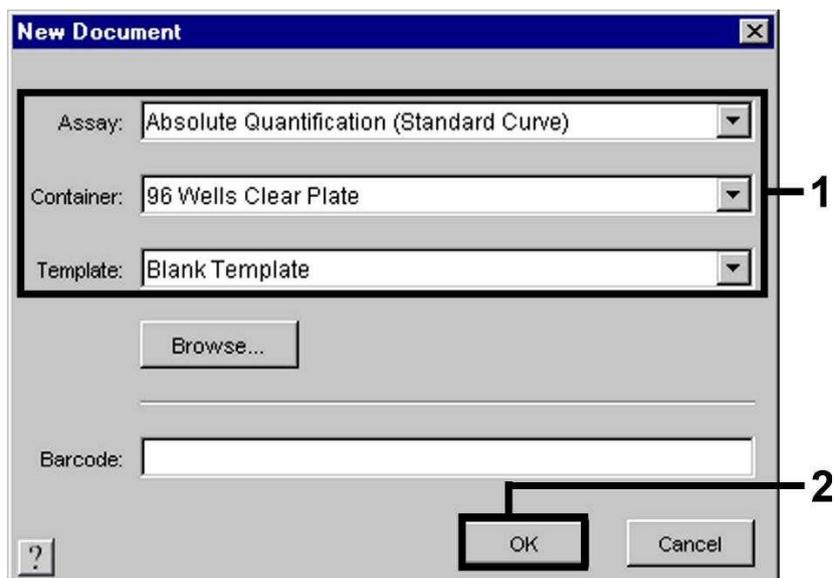

Fig. 16: Pre-settings for creating a new PCR run (*New Document*).
Select the item *New* from the *File* menu on the **ABI PRISM 7900HT SDS** and programme the following initial settings for the new document (see Fig. 16). A backup template (**ABI PRISM SDS Template Document [*.**sdt**]**) is available from the *Template* list or by selection using the *Browse* function (see 8.5.3.5 Saving the PCR Run). Confirm the pre-settings (OK).